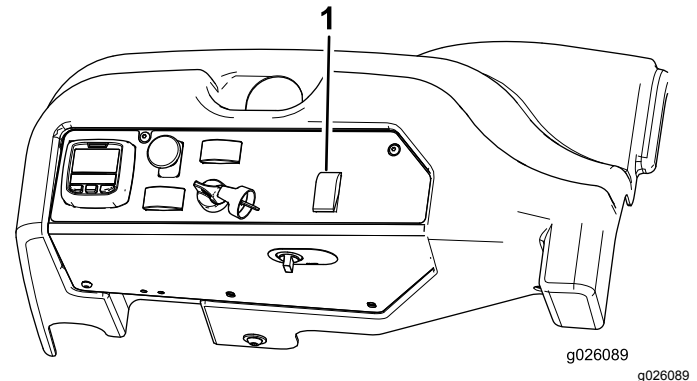

Figure 58
1. Press the steering selector switch to the rearward (four wheels steer) position (Figure 58).